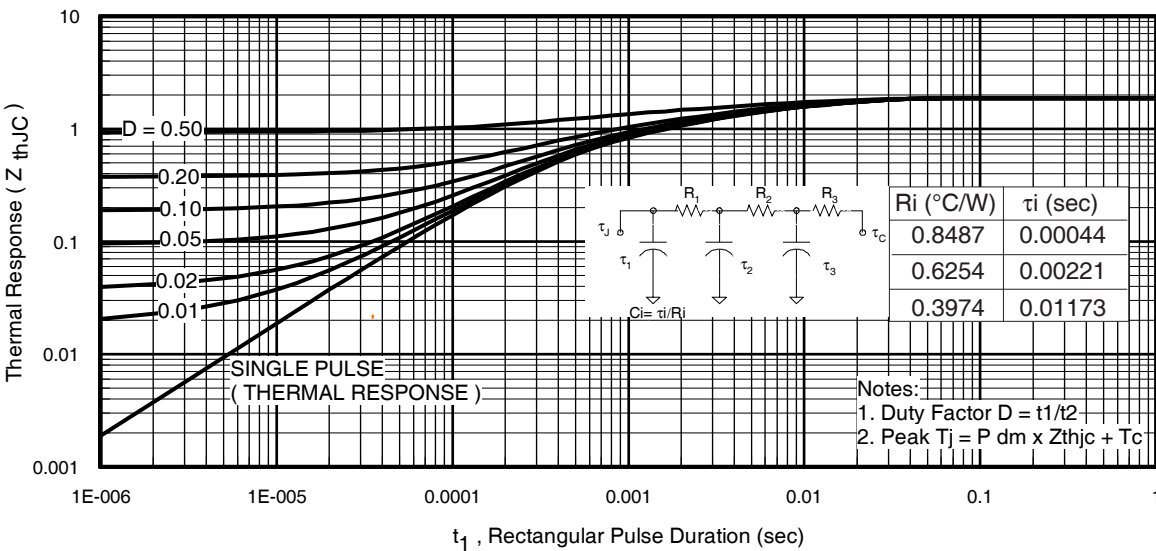
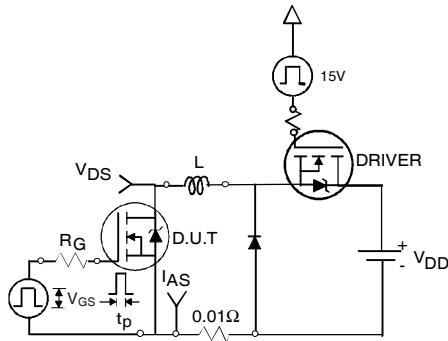

Fig 11. Maximum Effective Transient Thermal Impedance, Junction-to-Case
Fig 12a. Unclamped Inductive Test Circuit
- ① Repetitive rating; pulse width limited by max. junction temperature. (See fig. 11).
- ② Limited by T_{Jmax} , starting $T_J = 25^\circ\text{C}$, $L = 0.18\text{mH}$, $R_G = 25\Omega$, $I_{AS} = 31A$, $V_{GS} = 10V$. Part not recommended for use above this value.
- ③ $I_{SD} \leq 31A$, $di/dt \leq 840A/\mu s$, $V_{DD} \leq V_{(BR)DSS}$, $T_J \leq 175^\circ\text{C}$.
- ④ Pulse width $\leq 1.0\text{ms}$; duty cycle $\leq 2\%$.
- ⑤ $C_{oss \text{ eff.}}$ is a fixed capacitance that gives the same charging time as C_{oss} while V_{DS} is rising from 0 to 80% V_{DSS} .
- ⑥ Limited by T_{Jmax} , see Fig.12a, 12b, 15, 16 for typical repetitive avalanche performance.
- ⑦ This value determined from sample failure population. 100% tested to this value in production.
- ⑧ This is applied to D²Pak, when mounted on 1" square PCB (FR-4 or G-10 Material). For recommended footprint and soldering techniques refer to application note #AN-994.
- ⑨ R_θ is rated at T_J of approximately 90°C .
3. Equation below based on circuit and waveforms shown in Figures 12a, 12b.
$Z_{thJC}(D, t_{av})$ = Transient thermal resistance, see figure 11)